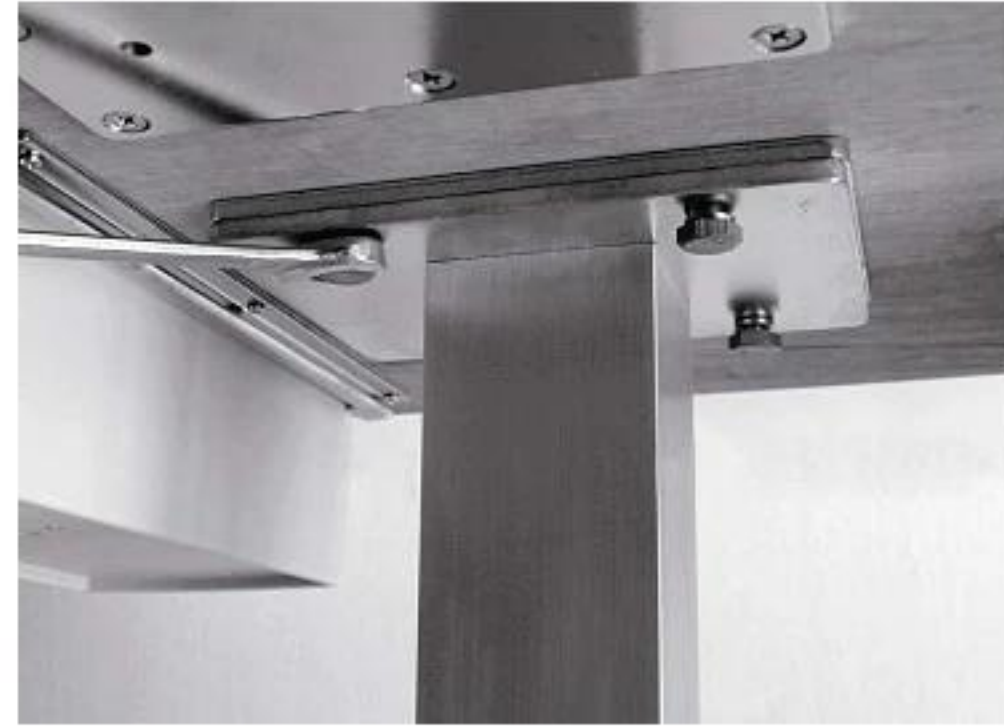

Fig.4
- ✧ Put down the worktable, with the power panel facing the operator, refasten the bolt securely with the spanner (Fig.4).